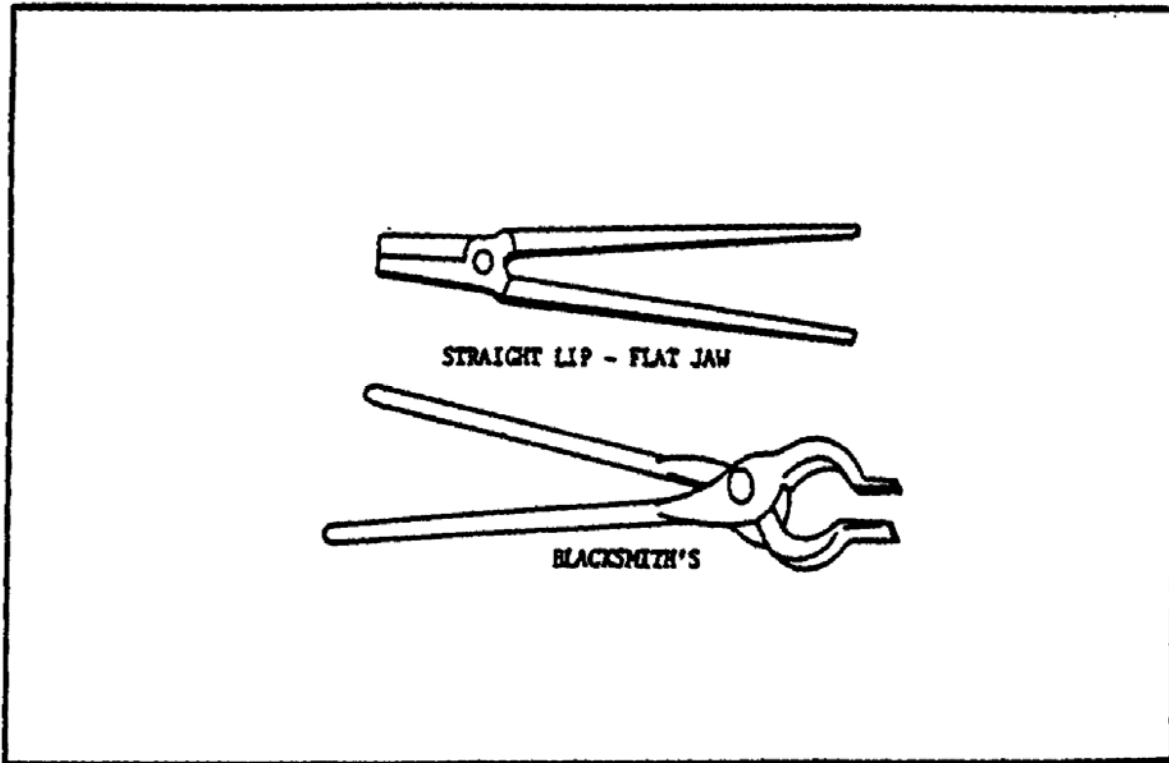

FIGURE 37. TONGS.
(6) *Tongs* (figure 37). Tongs differ according to their use. The blacksmith's tongs are used for picking up and holding hot metal. The straight lip, flat jaw tongs are used to hold bearings and bearing inserts, while setting them in place.